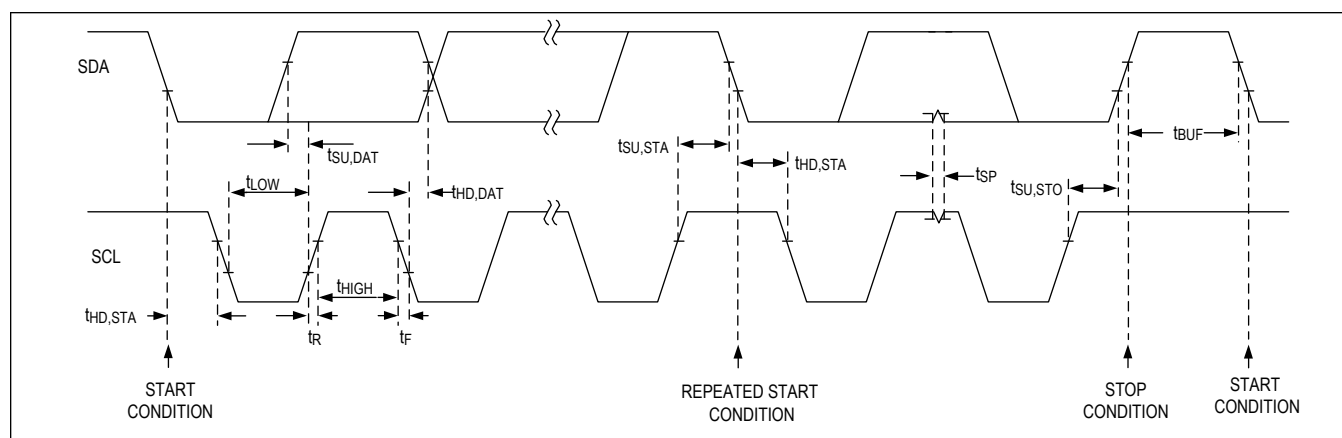

Figure 33. I²C Interface Timing Diagram
The IC features an I²C/SMBus™-compatible, 2-wire serial interface consisting of a serial data line (SDA) and a serial clock line (SCL). SDA and SCL facilitate communication between the IC and the master at clock rates up to 1MHz. Figure 33 shows the 2-wire interface timing diagram. The master generates SCL and initiates data transfer on the bus. The master device writes data to the IC by transmitting the proper slave address followed by two register address bytes (most significant byte first) and then the data word. Each transmit sequence is framed by a START (S) or REPEATED START (Sr) condition and a STOP (P) condition. Each word transmitted to the IC is 8 bits long and is followed by an acknowledge clock pulse. A master reading data from the IC transmits the proper slave address followed by a series of nine SCL pulses. The IC transmits data on SDA in sync with the master-generated SCL pulses. The master acknowledges receipt of each byte of data. Each read sequence is framed by a START (S) or REPEATED START (Sr) condition, a not acknowledge, and a STOP (P) condition. SDA operates as both an input and an open-drain output. A pullup resistor, typically greater than 500Ω, is required on SDA. SCL operates only as an input. A pullup resistor, typically greater than 500Ω, is required on SCL if there are multiple masters on the bus, or if the single master has an open-drain SCL output. Series resistors in line with SDA and SCL are optional. Series resistors protect the digital inputs of the IC from high voltage spikes on the bus lines, and minimize crosstalk and undershoot of the bus signals.